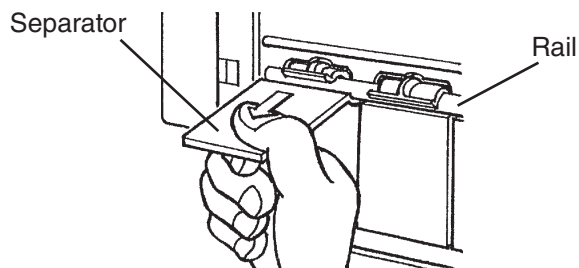

Fig. 45
- 16) Hook each separator onto the rail, then pull it hard towards you until it locks into place. See Fig. 45.